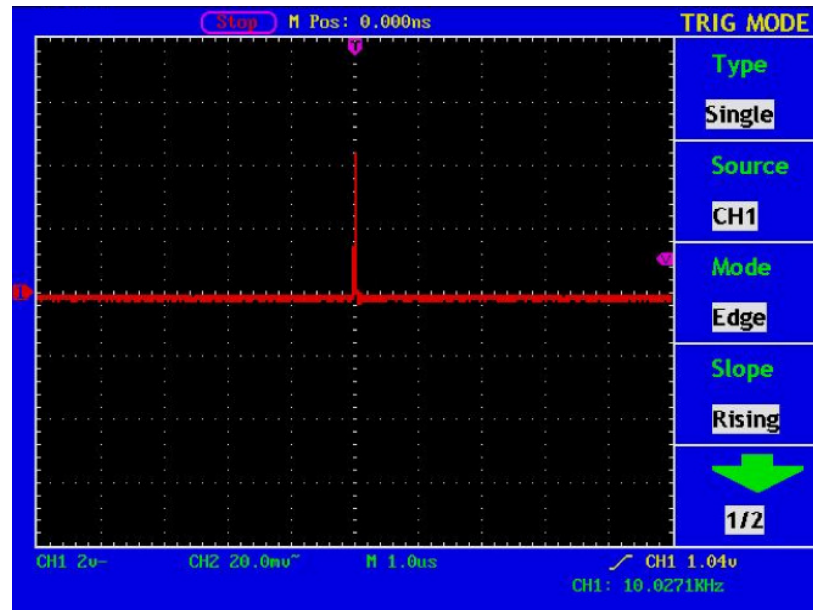

Fig. 106 Capture the Single Signal
12. If the **Trigger State Indicator** at the top of the screen does not indicate **Ready**, push down the **RUN/STOP** button and start **Acquire**, waiting the emergence of the signal in conformity with the trigger conditions. If a signal reaches to the set trigger level, one sampling will be made and then displayed in the screen. With this function, any random occurrence can be captured easily. Taking the burst burr of larger amplitude for example, set the trigger level to the value just greater than the normal signal level, and then presses the **RUN/STOP** button and waits. When there is a burr occurring, the instrument will trigger automatically and record the wave form generated during the period around the trigger time. With the **HORIZONTAL POSITION** knob in the horizontal control area in the panel rotated, you can change the horizontal position of the trigger position to obtain the negative delay, making an easy observation of the waveform before the burr occurs (see Fig. 106).